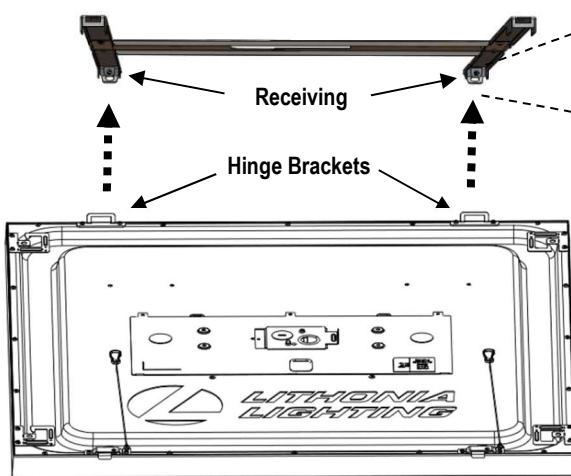

Figure 6A
- Start by locating hinge points on CPANL, position panel so you are holding it with the hinges away from you, see Figure 6A.